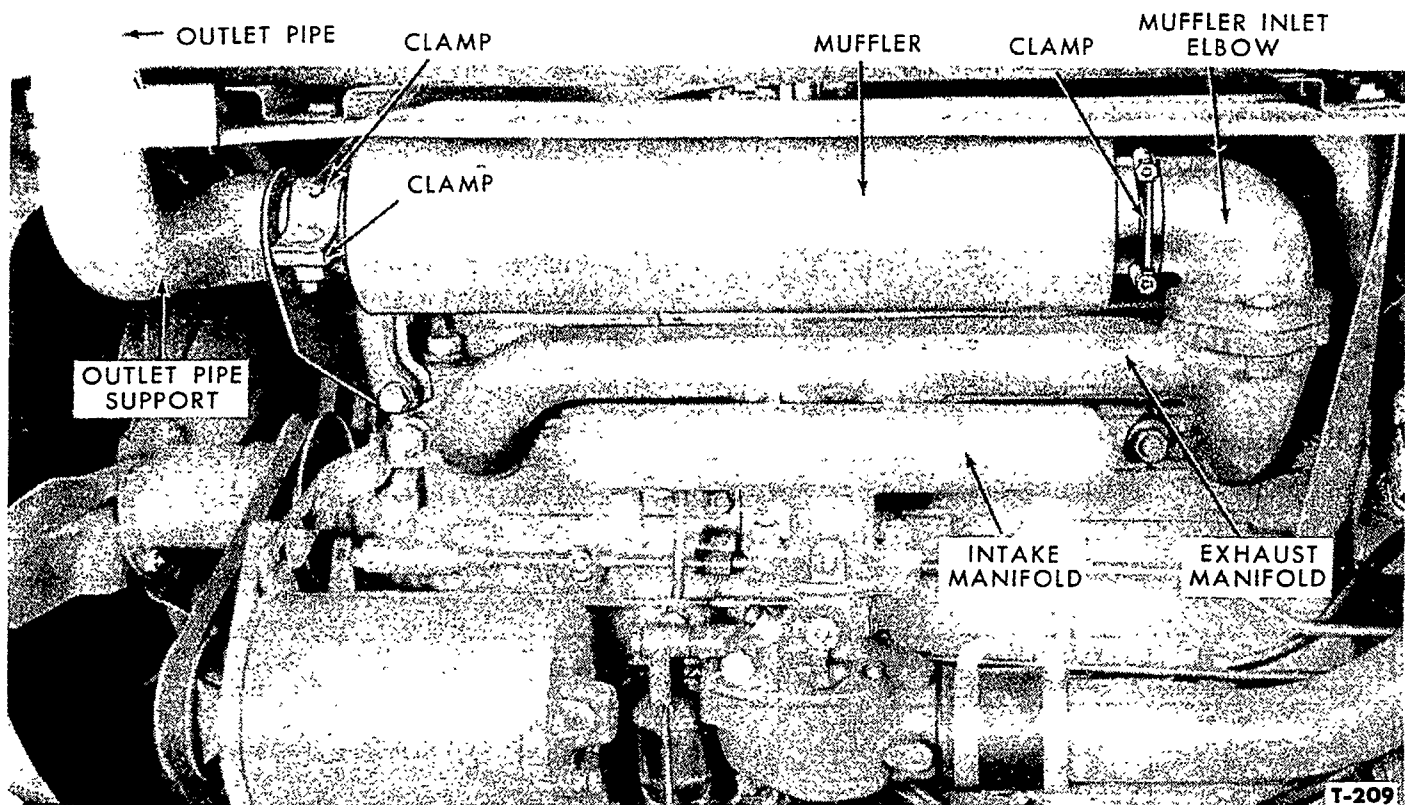

Figure 10—Vertical Exhaust System
1. Loosen the clamp bolt that secures the outlet pipe to the muffler outlet pipe support bracket, Figure 10. Remove the outlet pipe.
6. Position the muffler rear clamp on the rear of the muffler, Figure 10. Slide the muffler onto the outlet elbow as far as possible. Install and tighten the muffler rear clamp bolt.